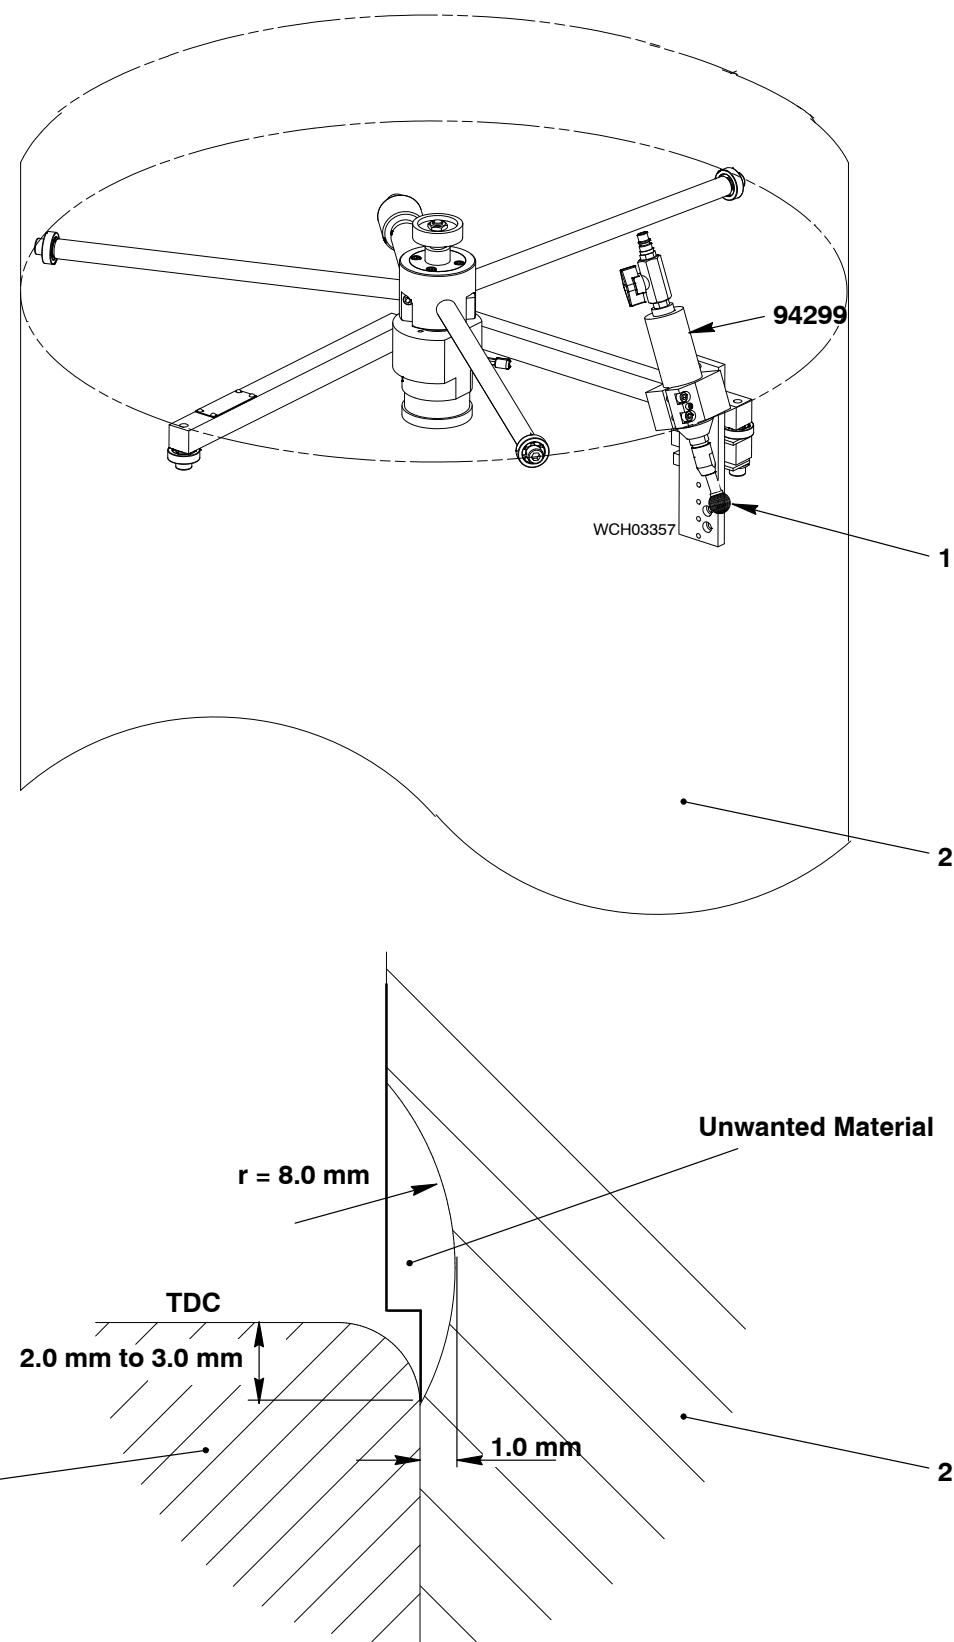

Fig. 1
- 2) Attach the grinding tool (94299, Fig. 1) to the cylinder liner, refer to the Instruction Manual.
- 4) Operate the grinding tool (94299) to carefully remove the unwanted material from the cylinder liner (1).